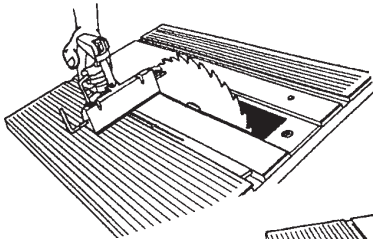

Figure B-75
44. Move the miter gauge from front to back along the saw blade, as shown in Figs. B-75 and B-76. If it hangs up on the blade or a gap develops, the miter gauge slots need to be aligned. Make sure the Allen wrench does not contact a saw blade tooth, because the tooth "set" will cause misalignment.